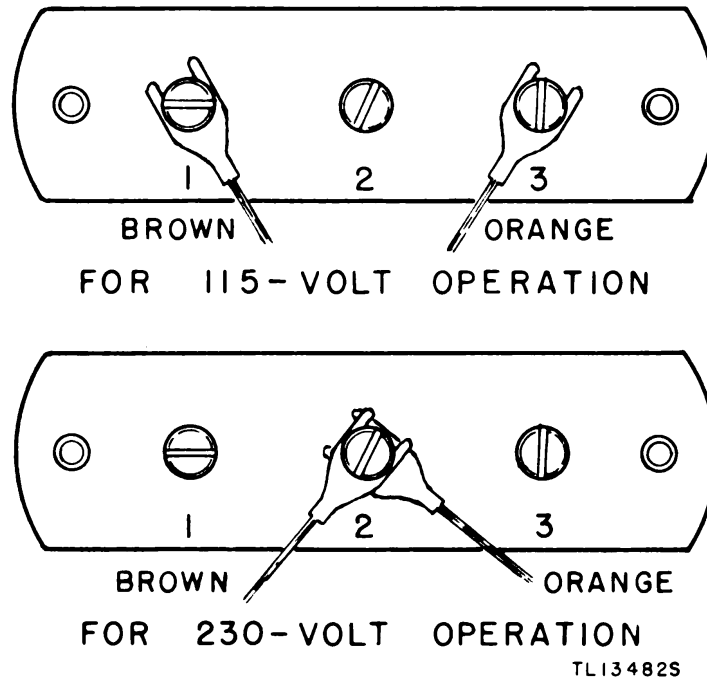

Figure 4. Keyer KY-7/FRT, supply voltage connections on terminal strip TS2.
a. Before attempting to put the keyer into operation, be sure to determine the value and frequency of the available alternating current (a-c) supply voltage. The primary of the power transformer is designed for operation at either 115 or 230 volts at 50 to 60 cycles. Change-over selection is accomplished by patching on terminal strip TS2 as shown in figure 4 and the following legend: